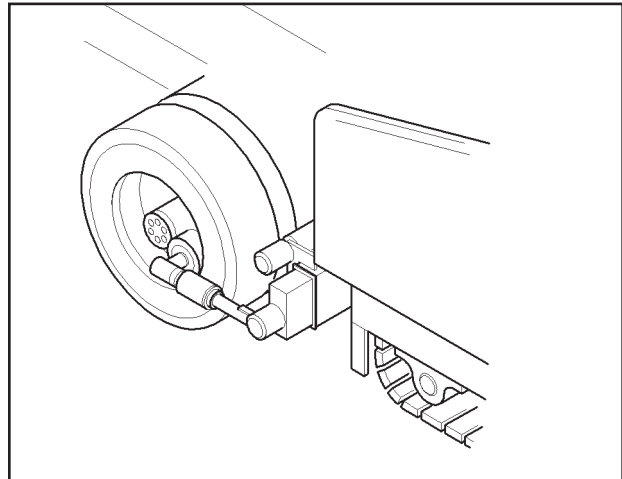

FIGURE 3-12. TRUCK HITCH
3. Set the TRUCK HITCH IN/OUT lever to the IN (Up) position to retract the hitch arms until both guide rollers are fully locked into truck wheel rims (see Figure 3-12).